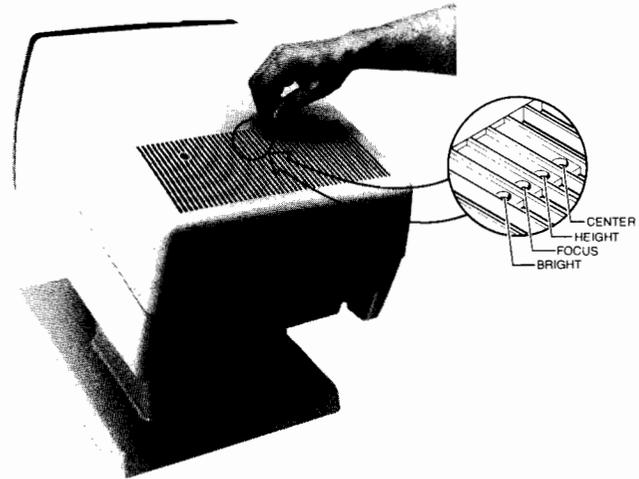

Figure 5-3. Location of Four Raster Adjustments (CENTER, HEIGHT, FOCUS, and BRIGHT)
- Using the hex end of the alignment tool, adjust the CENTER adjustment at the top of the terminal (figure 5-3) to center the display on the screen in the horizontal dimension.